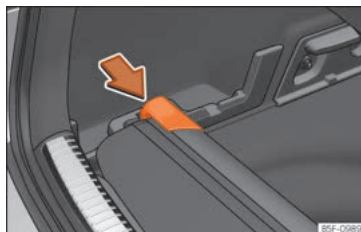

Fig. 178 In the boot: space to store the retractable shelf.
- Press the head of the retractable shelf in the direction of the arrow until it engages in its housing »» Fig. 178.